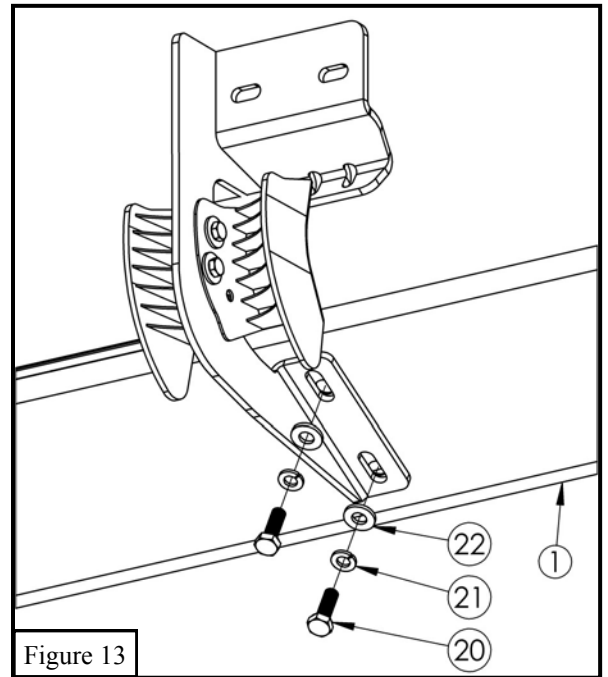

Figure 13
12. Loosely install the step bar assembly (Item 1) to the previously install mounting brackets with the supplied SEMS M8 hardware (Items 20-22). **See Figure 13.**